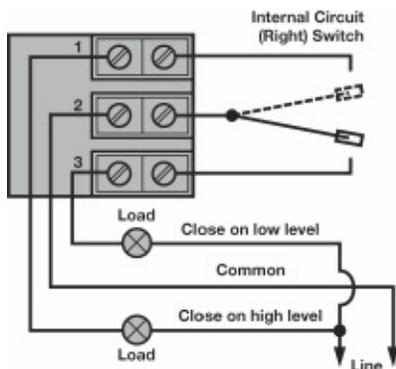

Figure 5
- a. SPDT Switch – Refer to Figure 5.
- 9. Replace the control wires on the appropriate terminals or wiring leads of the new switch. Refer to Figures 5–9 on pages 3–4 as necessary.